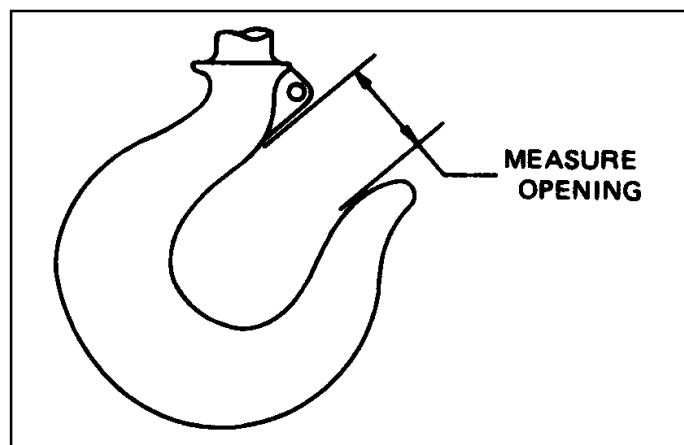

Figure 5-5. Lower Hook Opening
as. **DO NOT** operate hoist with hooks that have opened up. See Figures 5-5 and 5-6.
(1) Check for bent or distorted hook. If hook is opened beyond the dimension given in figure 5-5, it must be replaced. Also check to see that hook swivels and is free to pivot. Lubricate these points if necessary.